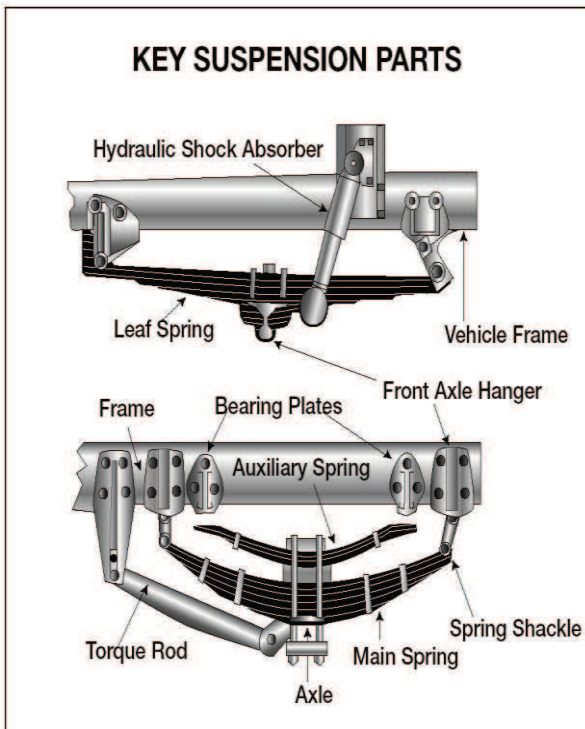

Figure 2.2
- ✓ Spring hangers that allow movement of the axle from its proper position. See Figure 2.2.